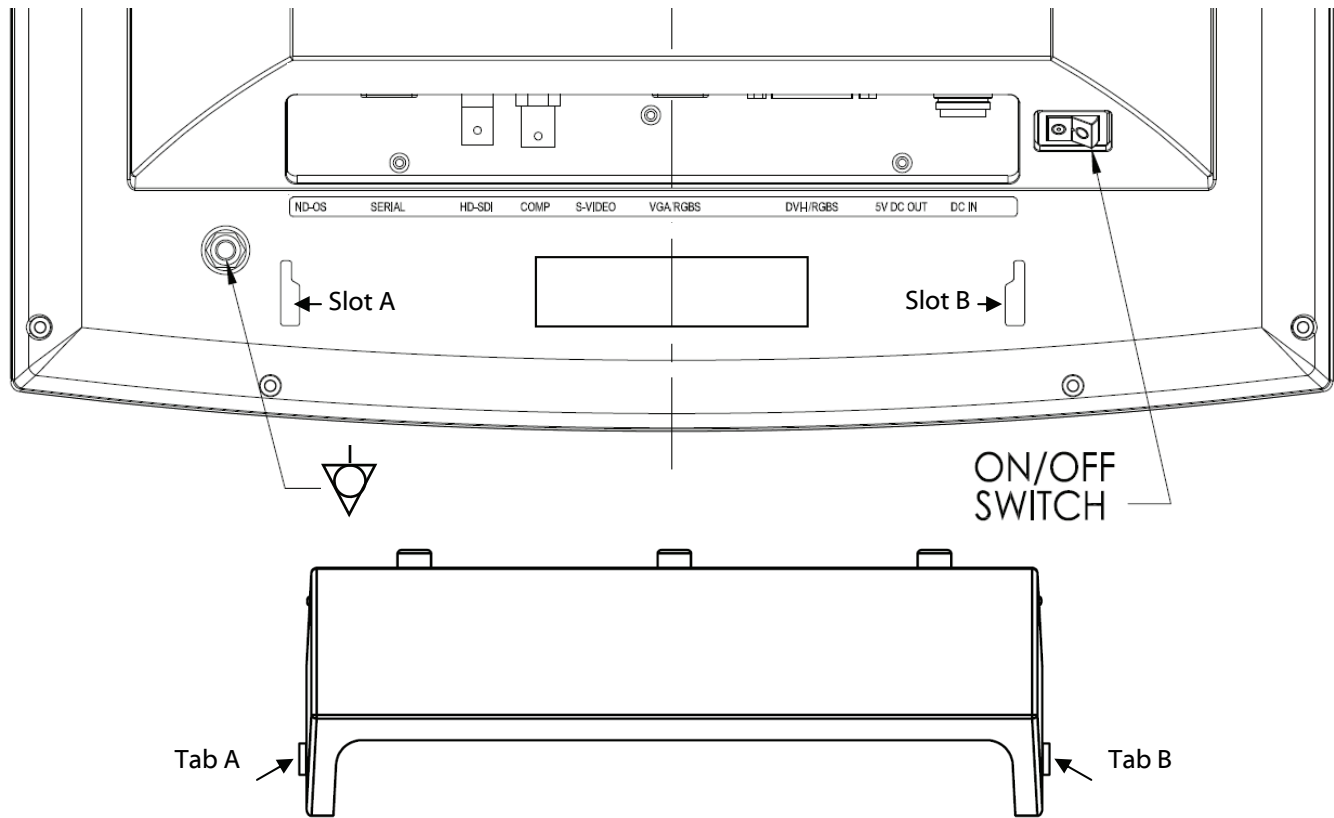

figure 1
2. Align tabs A and B with the wide areas of slots A and B. See figure 1